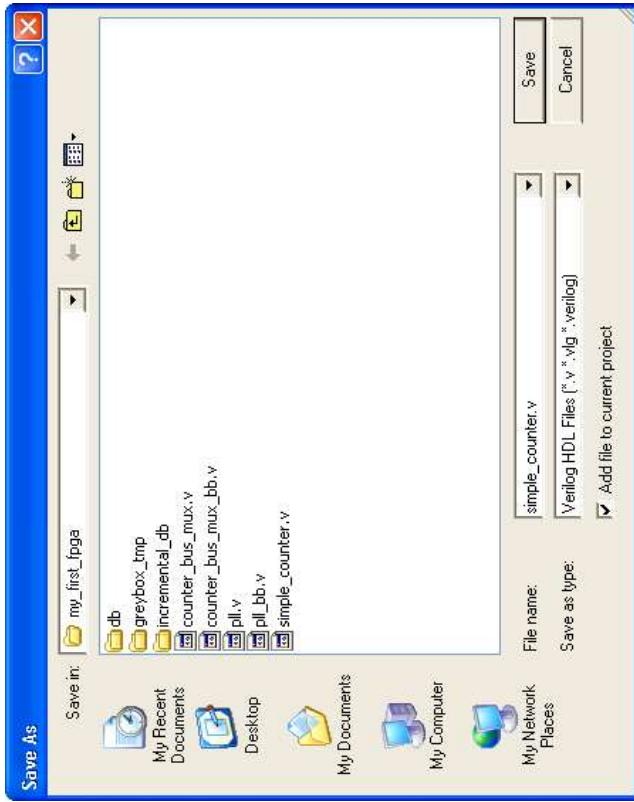

Figure 6-14 Saving the Verilog HDL file
3. Save the newly created file, by selecting File > Save As and entering the following information (see Figure 6-14).